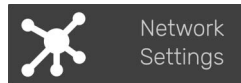

Figure 28 - Network Settings Button
1. On the touchscreen, tap the **Network Settings** button (**Figure 28**).